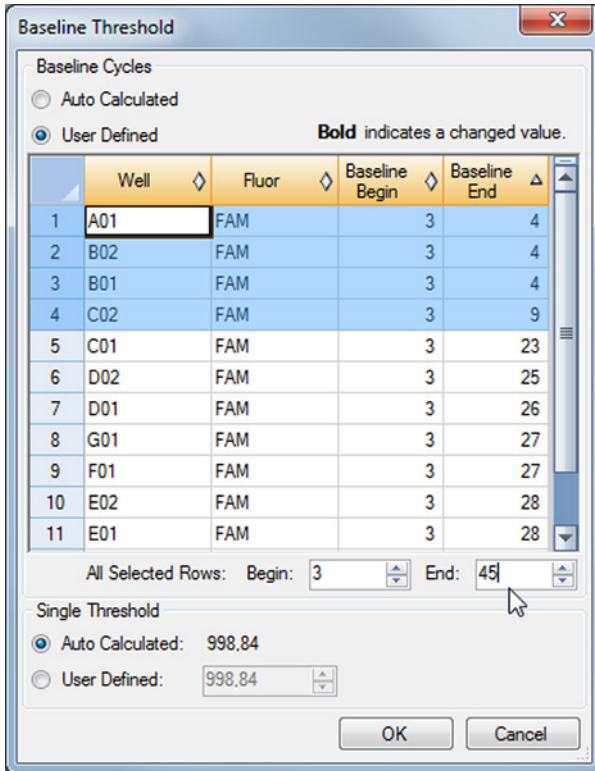

Figure 5: Baseline Threshold dialog
- In the menu bar of the Data Analysis window click **Settings** → **Baseline Threshold...** to open the Baseline Threshold dialog (see figure 5).
- Select all lines that show a **Baseline End** value of 1–9 (see figure 5).
- Set the value in the **End:** field to 45 for the selected lines (see figure 5).
- Repeat steps 3–7 for the VIC™ (IC) detection channel.